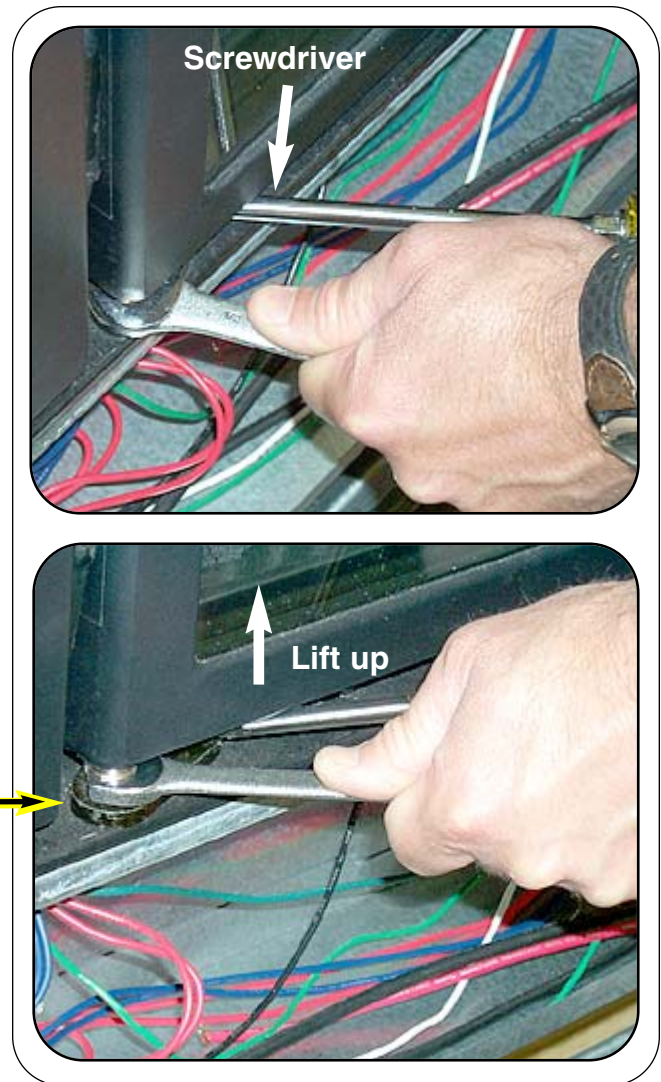

Figure 3. Loosening Torque on the Door
1. Loosen torque on door before removing the door. Wedge a screwdriver between the bottom of the door and the hinge socket, then lift the door up. This will lift the bottom hinge pin up and out of the bottom hinge socket. **Hold the hinge pin** with a 1/2 in. (13 mm) open end wrench to keep it from spinning out and stripping the socket. See Figure 3.